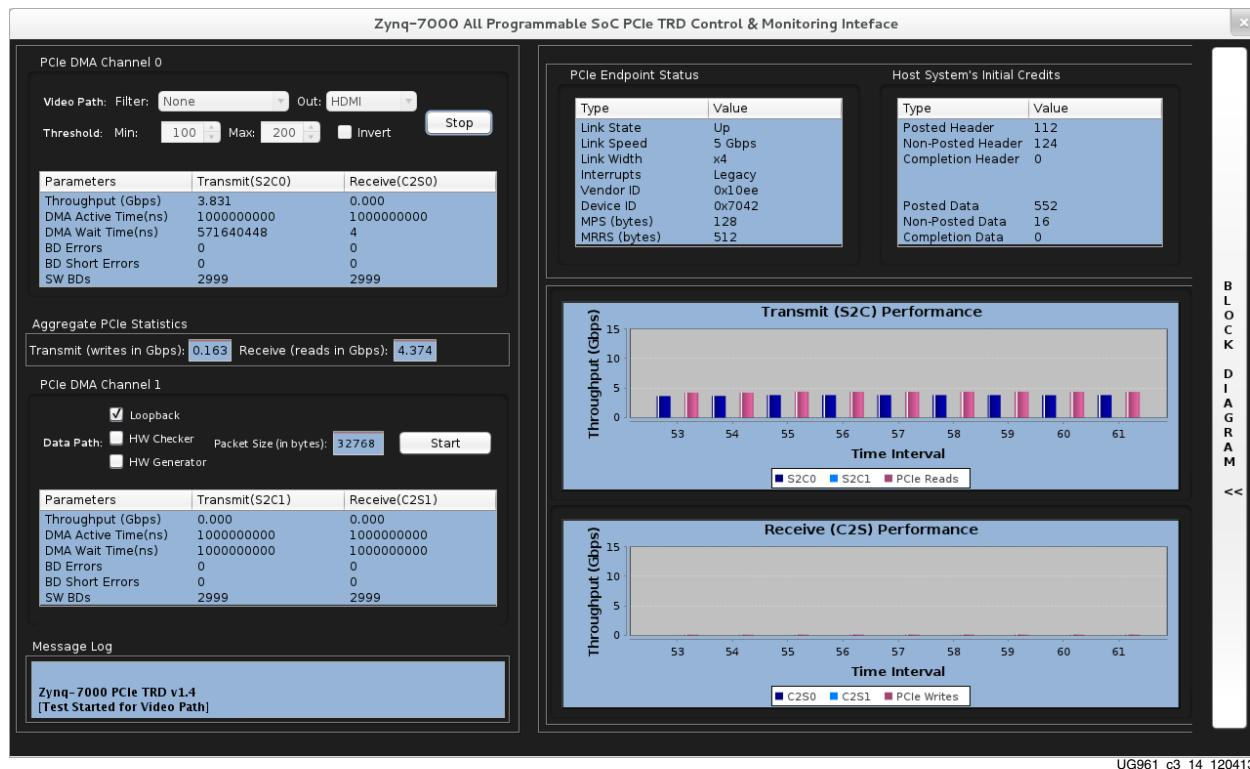

Figure 3-14: Performance Mode GUI
5. After installing the performance mode driver, the control and monitor user interface pops up as shown in Figure 3-14. The control pane shows control parameters such as Sobel Filter and Video Out selection modes.